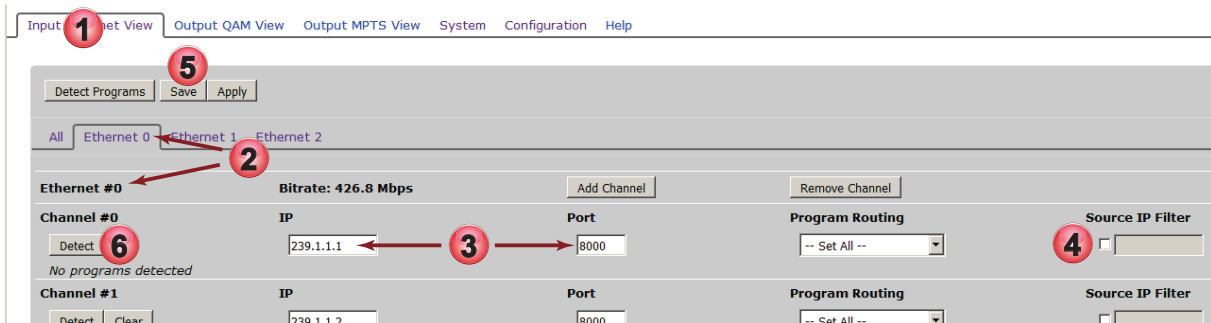

Figure 3-4: Enter IP Address and Port for Eth0 Ch0
1. Click the **Input Ethernet View** tab if it isn't already selected, Figure 3-4.